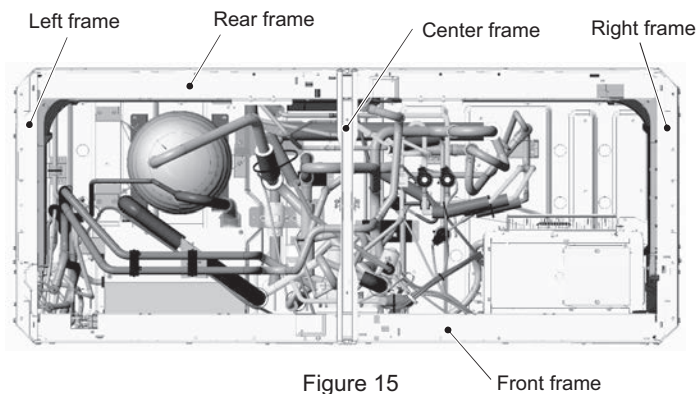

Figure 15
- (17) To remove the front heat exchanger, remove the front, right, left, and center frames. (16 screws, Figure 15)
- To remove the right and left heat exchangers in the back, remove the rear frame. (18 screws, Figure 15)